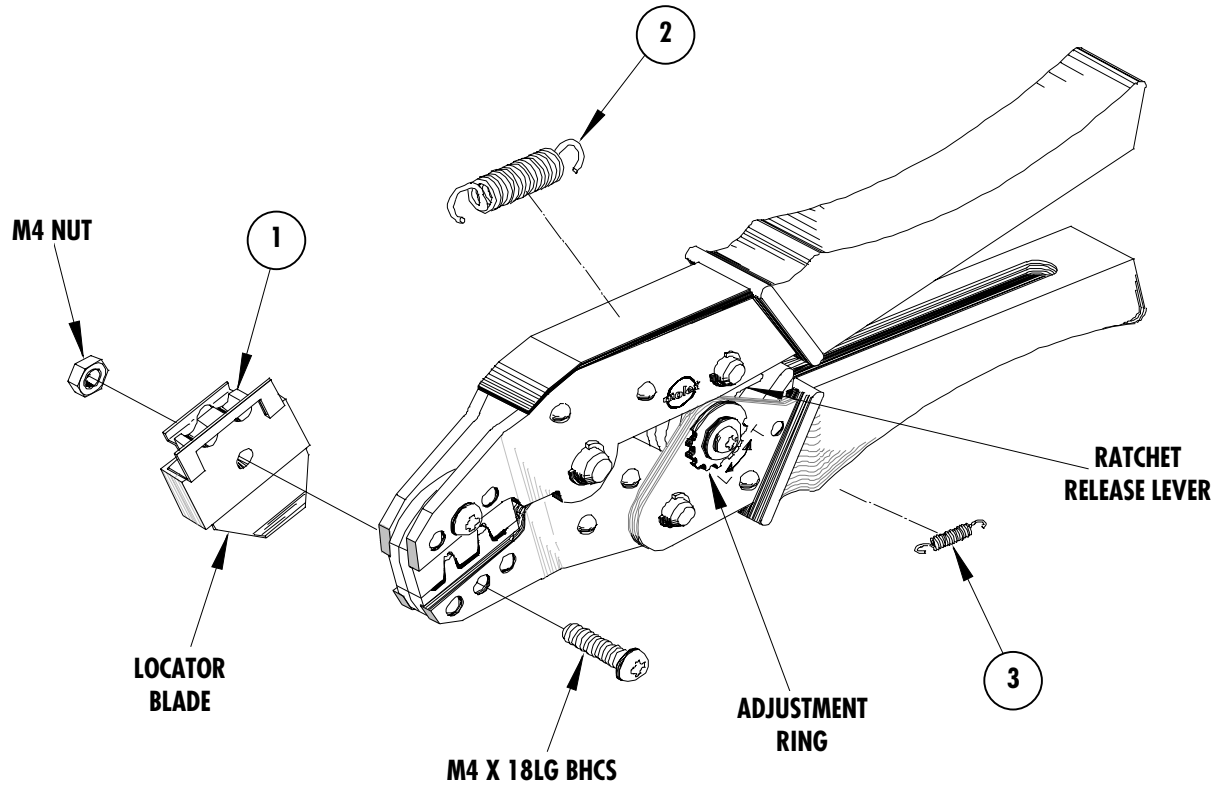

Figure 4
4. Close the tool until the ratchet releases. See Figure 4.
Should this tool ever become stuck or jammed in a partially closed position, **Do Not force the handles open or closed.** The tool will open easily by lifting the ratchet release lever (See Figure 4).
## How To Adjust Tool Crimp Force (See Figure 4)